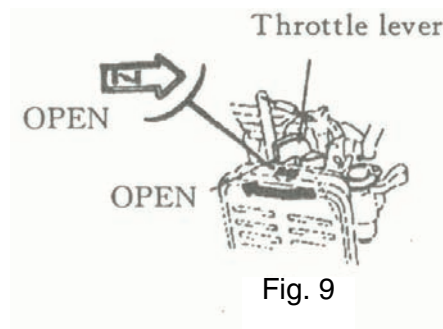

Fig. 9
5. Gradually move the choke lever to the OPEN position. Warm up the engine until it runs smoothly (Fig. 9).